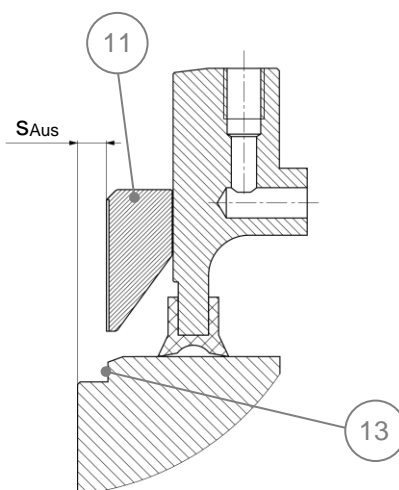

Fig. 6: Axial alignment with the aid of pointer (item 11) and axial alignment markings (item 13)
- The housing (item 2) is connected to the drum flange by means of the flange screw connection (item 17). Screws of at least strength class 10.9 are required for this purpose.
- After the housing and the drum flange have been connected, the coupling must be axially aligned. The alignment of the surfaces of the pointer (item 11) and the offset hub (item 13) with each other serves as an indicator, see Fig. 6.